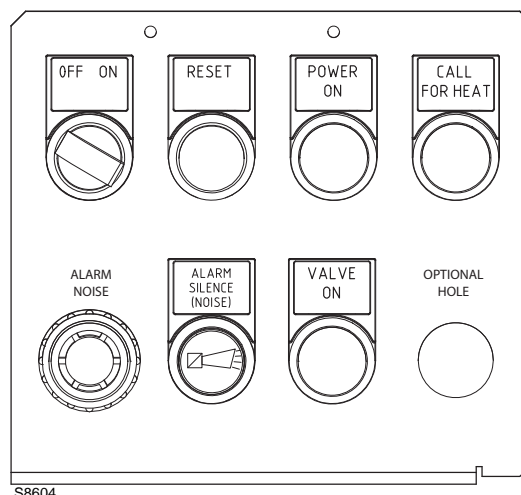

Fig. 24
- Electric voltage is available (indicator light **POWER ON** must be on) (Fig. 24).
- Turn the “**ON/OFF**” selector (Fig. 24) to “**ON**” and make sure that there is a heat request (thermostat on ON).
Key (Fig. 24)